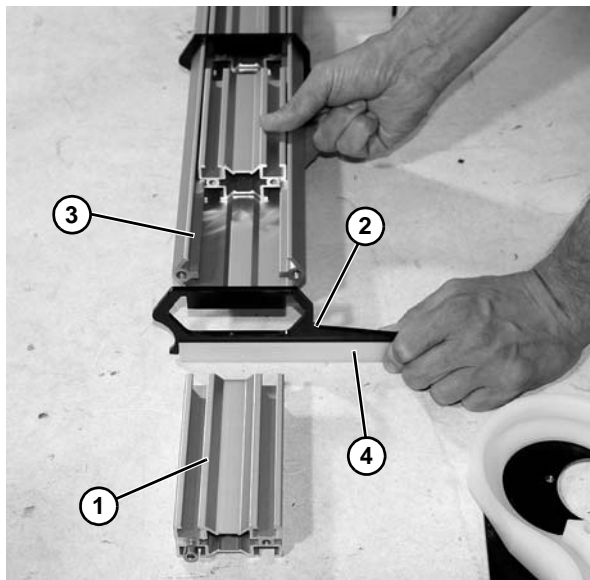

Figure 61
14. Remove each extrusion (**Figure 61, item 1**) and support plate (**Figure 61, item 2**) from crossmember (**Figure 61, item 3**).
15. Inspect and replace wear strip (**Figure 61, item 4**) if necessary.